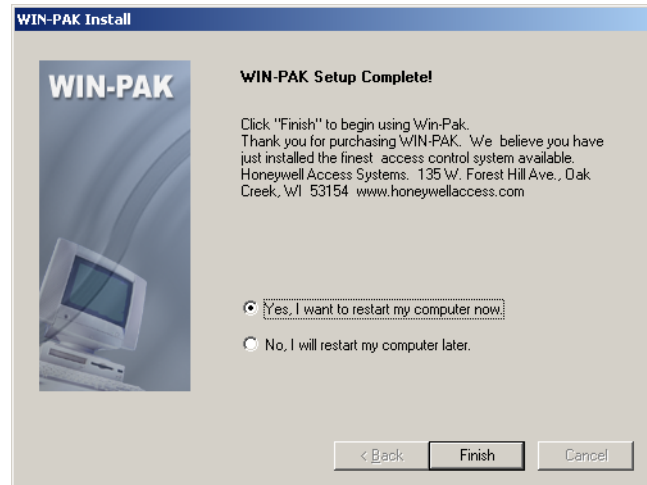

Figure 2-15 WIN-PAK Setup Completed
13. After completing the installation, Figure 2-15 appears.